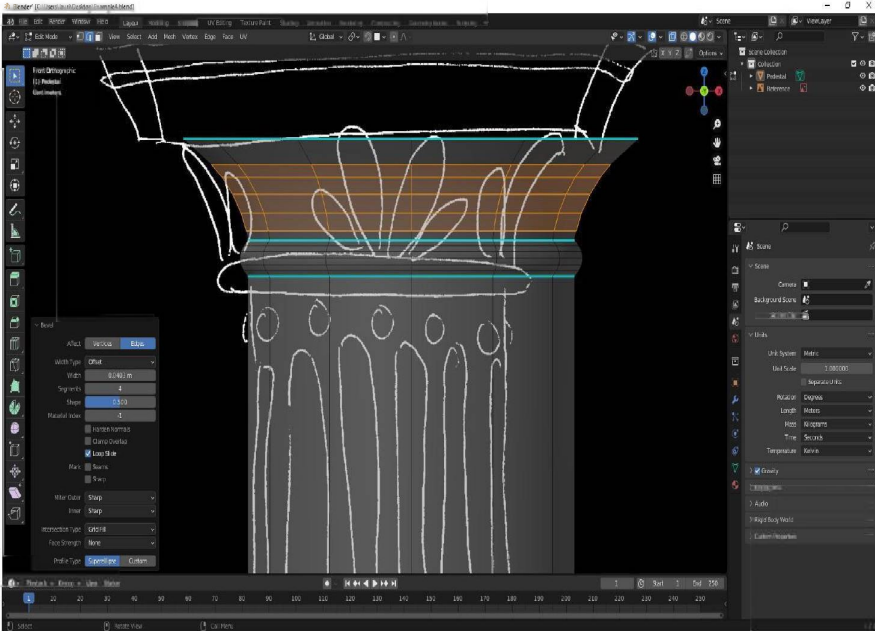

Figure 4.24: Beveling the inserted, inward scaled edge loop, to create a rounded intrusion
12. Once again, insert a new edge loop in the middle of the new faces and confirm. This time, scale the new edge inward, to approximate the inner curve, and bevel again. The same settings that were used before will be reapplied as shown in *Figure 4.24*: